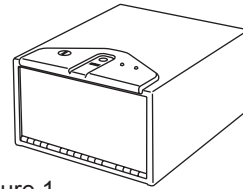

Figure 1
**NOTE ON LOCKING THE SAFE:** The safe needs to be in an upright position, as shown in figure 1, for the locking mechanism to function properly. Failure to mount the safe in the correct upright position will compromise the safety and security of the safe.